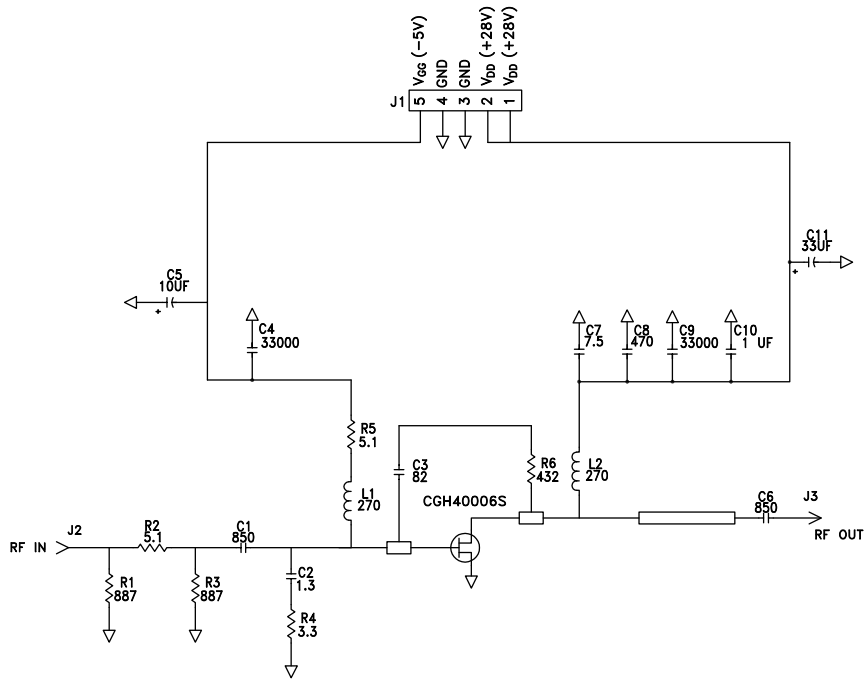

Figure 4 - Schematic of CGH40006S-LNA-KIT Demonstrator Circuit
7. Verify connections with the schematic shown in Figure 4.